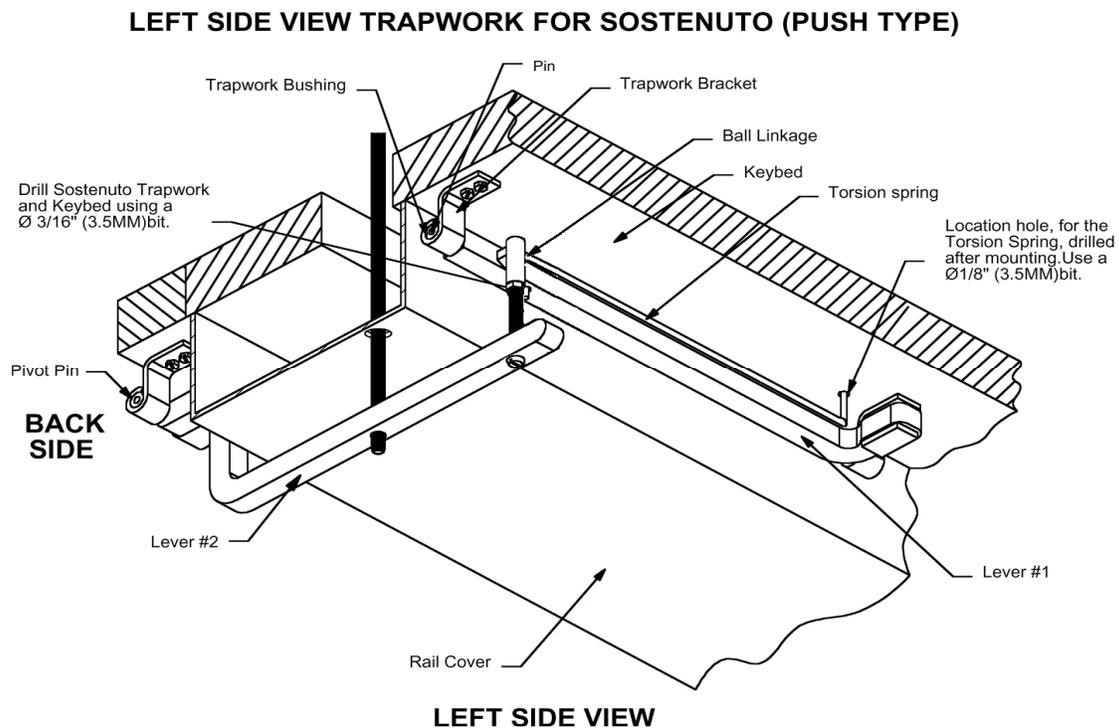

Figure 22
- E. **Drill holes for ball linkage.** (See Fig. 22) Drill a 3/16"(4.5 mm) hole at the ball linkage line location found in step 21-A.
- K. **Place pivot pin in lever #2.** Drill a hole in lever #2 for the pivot pin (See Fig. 22). Lightly grease the pivot pin and tap the pivot pin into the hole.
- L. **Place a connecting link in lever #2.** Drill a 1/4" hole thru lever #2 for the connecting screw to the ball linkage. (See Fig. 22) Locate the screw, washers, Felts and nuts in the kit. Assemble the hardware on lever #2.
- M. **Mounting lever #2 .** First, place a pivot bracket on each side of the pivot pin. Next, attach the connecting screw, on lever #2, to the ball linkage on lever #1. (See Fig. 22) Then, center the lever #2 on the line at the bass/tenor break. This is the ball linkage line established in step 21-A. Then Position lever #2 so it will mount outside of the rail cover area. Attach the lever with the 1" hex head screws supplied in the kit.